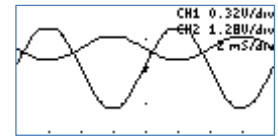

Figure 68: BJT Measurements
- 6) Increase the AWG offset until the CH2 wave is centered on the display. The display should look like figure 68.